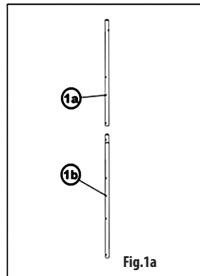
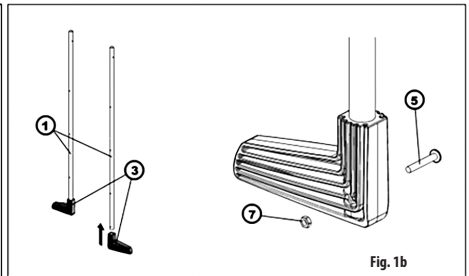

Fig.1a
Fig. 1b
Put the lower elbows (3) on the correct ends (according to the holes) of stile tubes (1). Secure them in place using appropriate screws (5) and nuts (7) (**Fig. 1b**). For the divided ladder intended for the pools of 1.20 m depth pair the upper part (1a) and the lower part (1b) of stiles, (**Fig. 1a**).